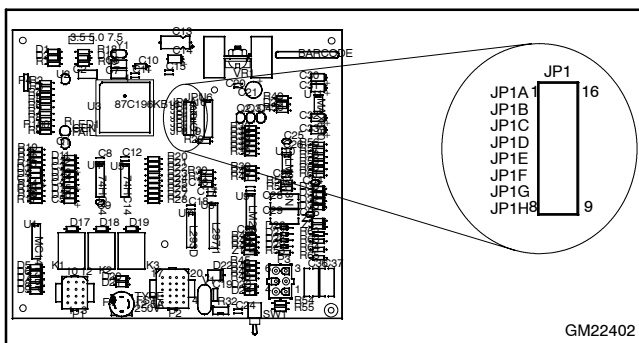

Figure 6-6 Programming Shunt Location
Control board GM22402 uses a programming shunt for voltage selection. See Figure 6-6 for the programming shunt location. Set programming shunts JP1A through JP1D to select the generator set kW and voltage as shown in Figure 6-6 and Figure 6-7.
6. Before installing replacement control board GM22402, install the jumper(s) (294634) as shown in Figure 6-7 to obtain the rated power (kW) and voltage for the generator set. Zero (0) to three jumpers are required, depending on the selected voltage and power ratings. See Figure 6-6 for the jumper locations.